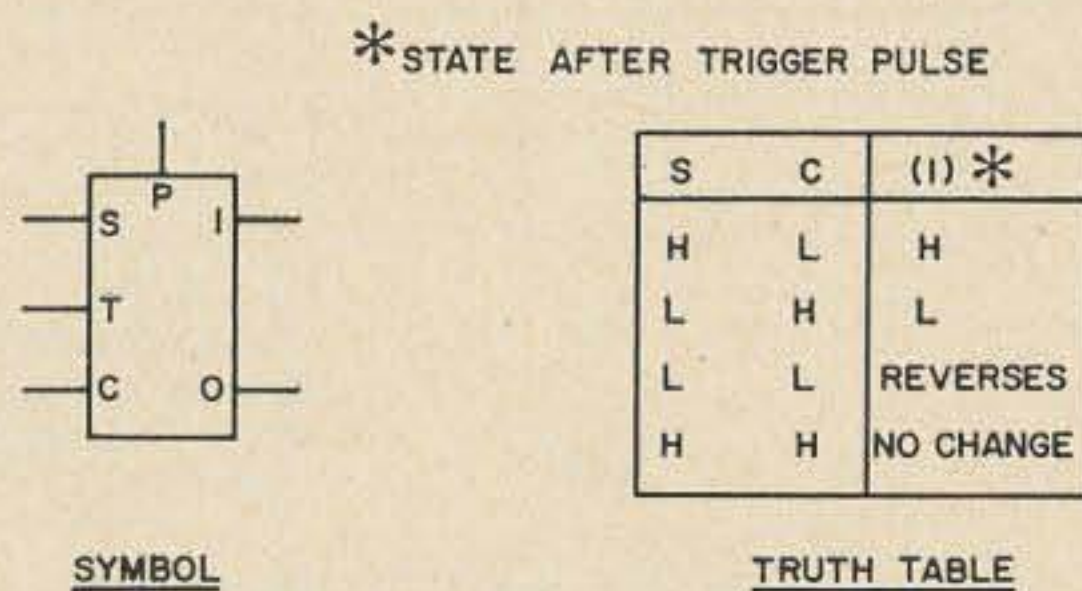

Fig. 4. J-K flip-flop
The J-K is an unusual but most versatile type of FF used in modern digital systems. It is also called a "master-slave", or "clocked" flip-flop. Its symbol and operation table are shown in Fig. 4. The inputs are: Set (S) and Clear (C) (sometimes called the J and K inputs), toggle or trigger (T) and preset (P). The outputs are (1) and (0), sometimes designated as \bar{Q} and (Q). These outputs are *always* in opposite logic states; that is, when one is high the other is low. The preset function is not shown in the truth table. When the (P) lead is high, the (1) output is forced low, regardless of the states of the other inputs. While the integrated-circuit J-K contains the equivalent of 15 transistors, two independent circuits are contained in the Motorola MC790P for only \$2.00.
states duplicate the input states *after the clock pulse*. This FF is seen to be timed, or "clocked." It will be used in this mode in the Selcal Shift Register. The truth table in Fig. 4 shows all modes of operation.